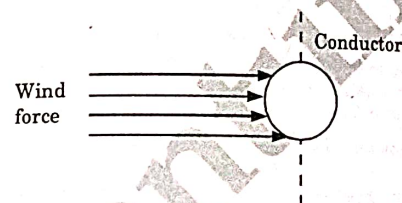

Fig. 3.6.2. Direction of wind force.
2. Thus force due to wind act at right angles to the projected surface of the conductor as shown in Fig. 3.6.2.